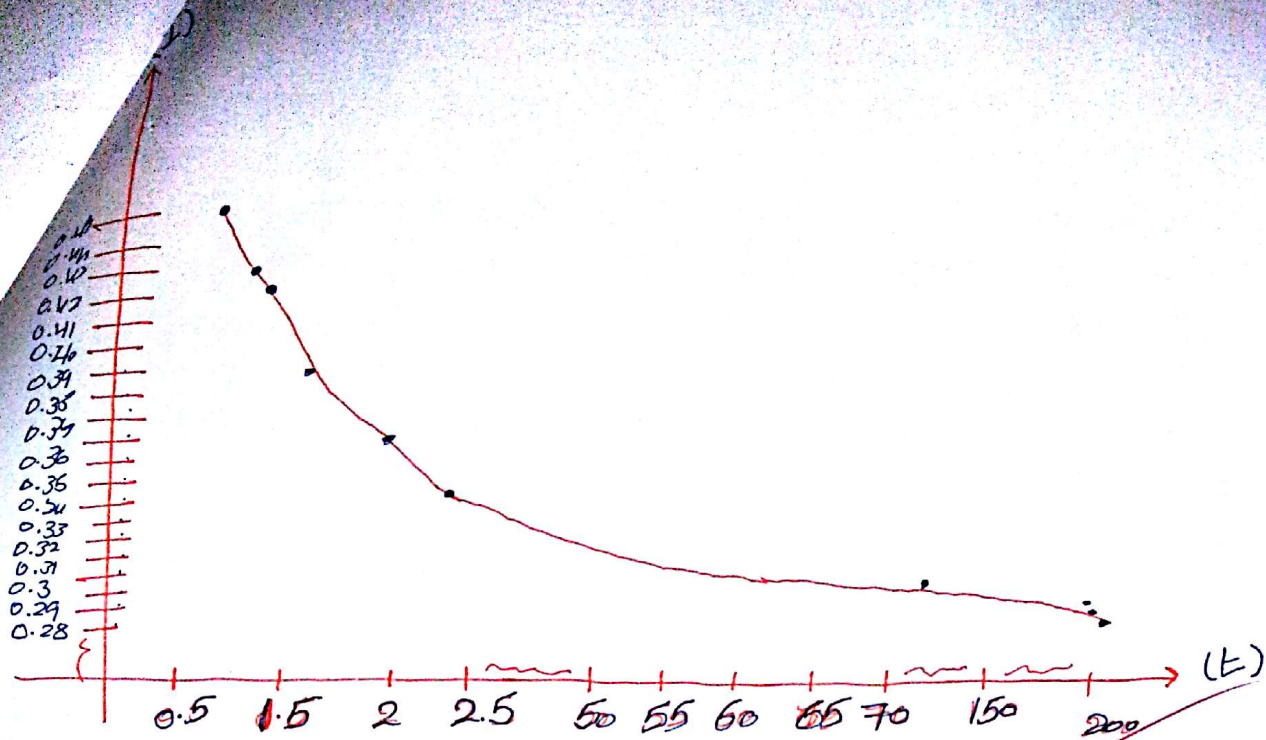

Fig No. 4
* From the table.3 and Fig No.4 we find that the time needed by the Fuse to interrupt the circuit is Inversely proportional that is as the fault increase the operating time decreases, which is the fundamental property in the fuse which lead to its use in protection the circuit from the fault.